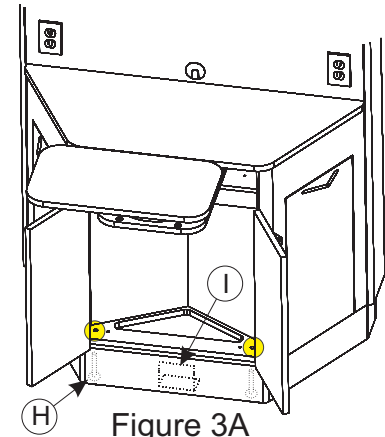

Figure 3A
Adjust the (4) Leveling Feet (H) to the desired height using a 5mm allen wrench. Each Leveling Foot has access to the allen head through a hole in the bottom cabinet. (see Figure 3A & 3B)